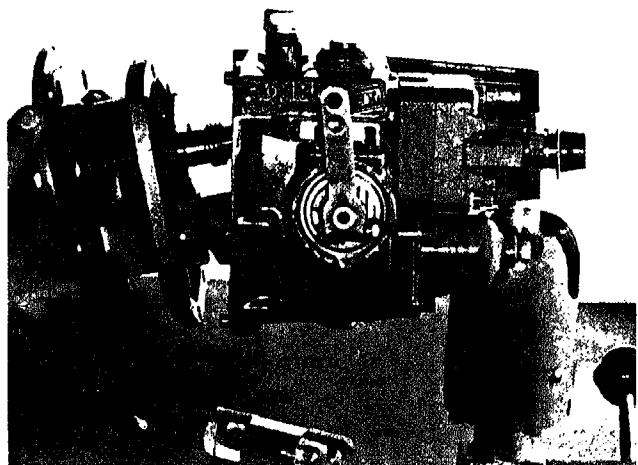

Fig. 501-11 Removing drive cover
3. Lift cover off dowels and discard gasket. Fig. 501-11.